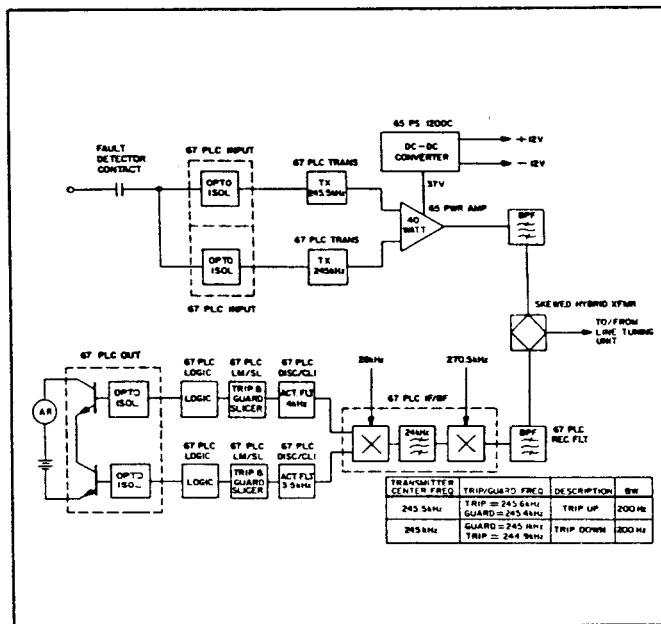

Figure 1.9. Block diagram- dual channel bidirectional system for direct transfer trip applications.
- (1) Ensure that suitable series dropping resistors for trip input and output (if required) are installed. (See Figures 1.9 through 1.15).
- (2) With the aid of Tables 2.1, 2.2, and 2.3 set all jumpers on the Model 67 PLC INPUT card so that its performance will conform to the requirements of the purchase specification.
- (3) Energize inputs for TRIP 1, TRIP 2, or both, as appropriate, and observe that their supervisory lamps glow accordingly.
- (4) Refer to Tables 3.1, 3.2, and 3.3. Ensure that appropriate oscillator crystals and frequency-divider jumpers are in proper position, and check the bandpass filter to be sure it is firmly mounted. Note which oscillator operates at each frequency, as required by the purchase specification.
- (5) Check the bias currents in power amplifier as follows: